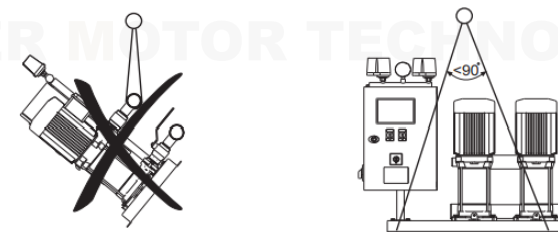

Figure 3.1 Transport booster
- ❖ Check whether there is any damage on the booster during the transport of the booster. If necessary, call our nearest dealer. **Do not use engine hooks, suction or discharge collectors as means of transport.** Take care to place the device carefully on the floor.(Figure 3.1)